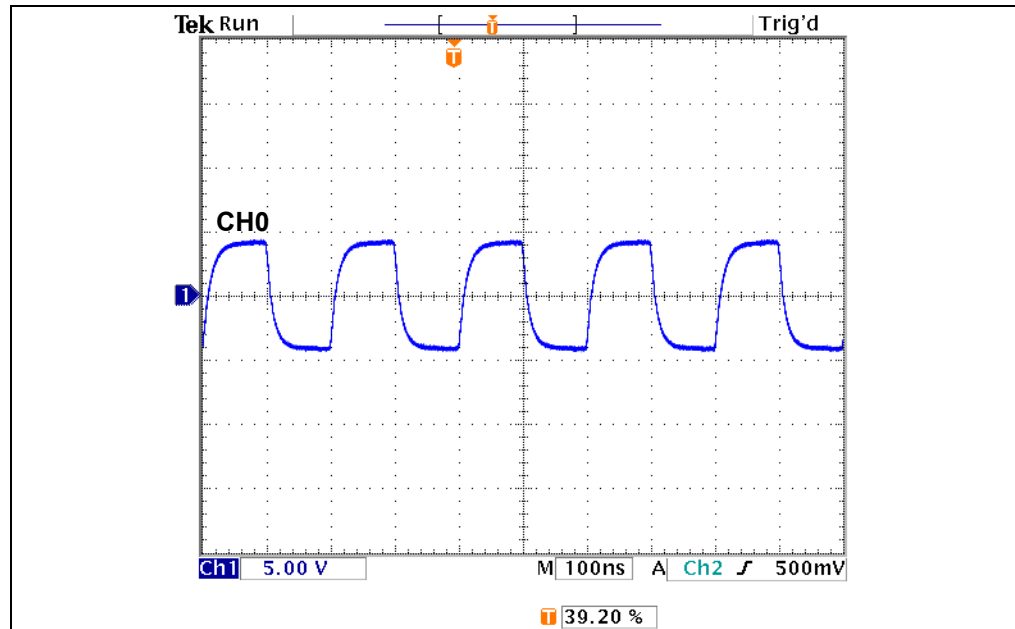

FIGURE 3-16: CW Mode-1 Output ($V_{CW+} = +5V$, $V_{CW-} = -5V$).
10. An oscilloscope screenshot of the waveform generated is shown in Figure 3-16.